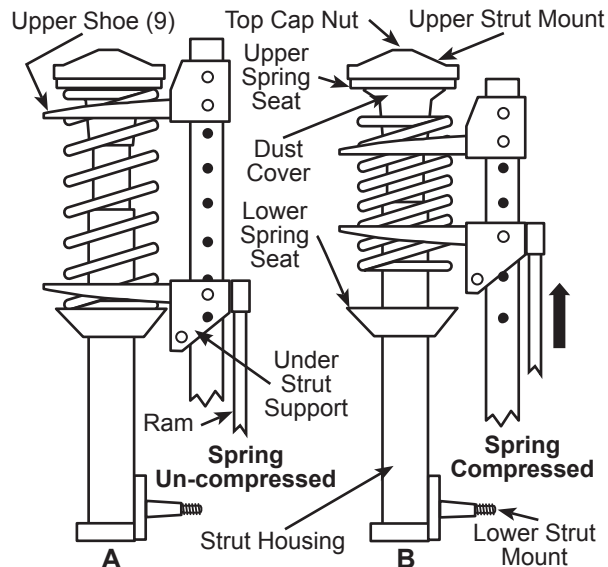

Fig. 2
5. Apply grease to the front and rear faces of the main Upright (14) to assist the smooth sliding of upper and lower strut support (24, 31) Rollers (27).
8. Ensure upper and lower Shoes (28, 28A), Strut Supports (31, 24) and their Retaining Pins (30, 23, 26) are properly positioned. Their R-Clips (32) and Circlips (29, 22, 25) must be properly installed.
10. Always fit the Safety Chain (37) around strut and spring (see Fig. 2). Ensure Chain is not trapped in the coils of the spring being compressed.
18. Be sure the tension on the spring is fully held by the strut assembly before removing the strut from the Shoes (28) of the compressor.
3. The upper Shoe (28) should bear down on the *first full coil* down from the top of the strut. The lower Shoe should be pushing up on the *first full coil* up from the bottom of the strut. (See Fig. 2.)
- b. Ensure that the Retaining Pins (30) holding the Upper Strut Support (31) are fully inserted and secured with the R-Clip (32) and Circlips (29) provided.
- c. Use the Foot Pedal (5) to raise the Under Strut Support (24) to finely adjust the distance between the Shoes.
5. Fit the strut into the Shoes (28) and ensure that the lower coil used lies behind the inner retaining rim at the back of the Shoe (28). Operate the Foot Pedal (5) to raise the upper coil end into contact with the upper spring seat, ensuring the coil at both ends are securely retained by the raised inner and outer rims within the Shoes (28, 28A).
6. Wrap one Safety Chain (37) around the portion of the spring and strut protruding from the upper Shoe (28) ensuring that the Chain lies **above** the Shoe. (See Fig. 2.)
- a. Fasten each Chain behind the Upright (14) using the attached spring catches. Make sure each Chain is as tight as possible. Do not position the Chain in the coils held between the Shoes (28, 28A).
9. Gradually compress the spring by pumping the Foot Pedal (5) or operating the Air Valve (1) ensuring that the spring and strut remain securely held at all times.
10. Ensure that the strut and the Upright (14) of the compressor are correctly aligned at all times during spring compression.